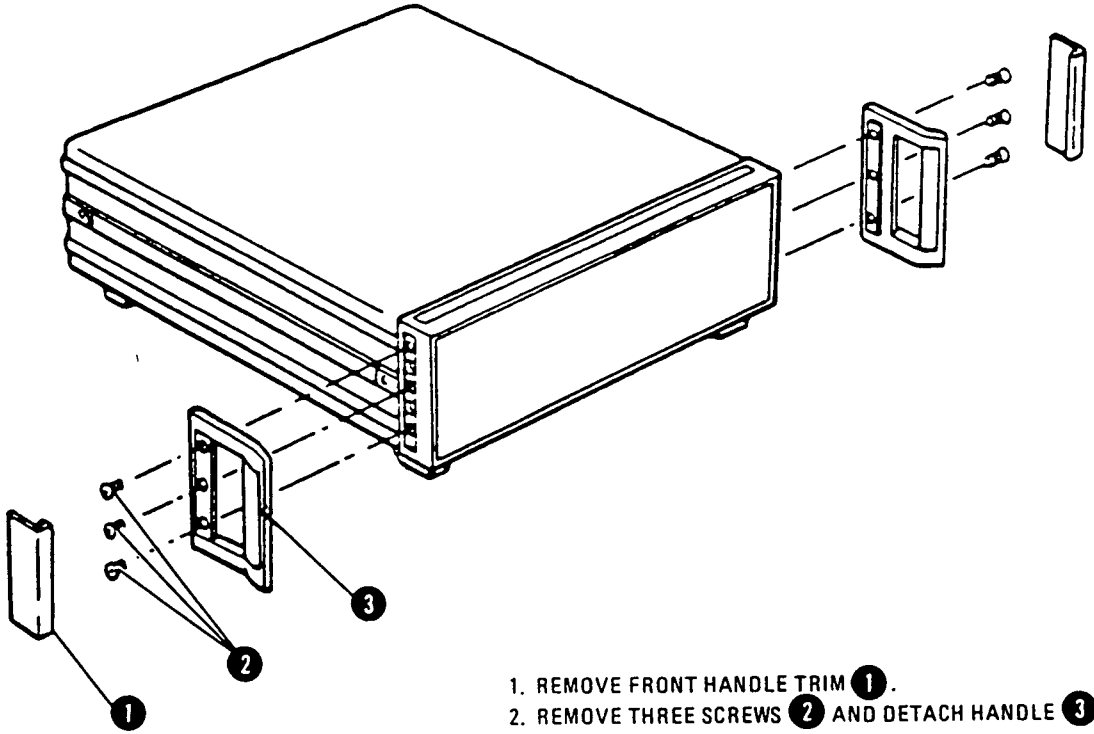

FIGURE 1. REMOVING FRONT HANDLES
1. Remove the front handles from the RF Section and IF-Display Section of the spectrum analyzer. (See Figure 1.)